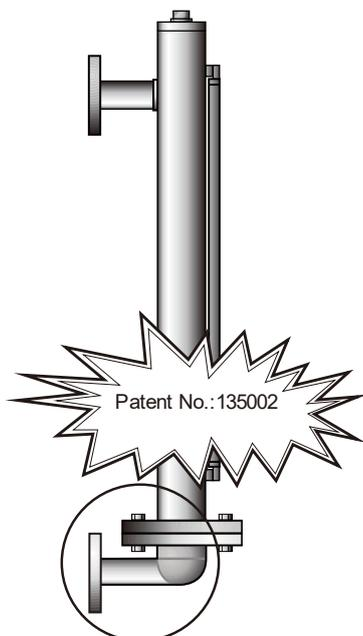

Fig.2
2.) Innovative Design For Bottom End flange and the Connecting flange (Fig.2)